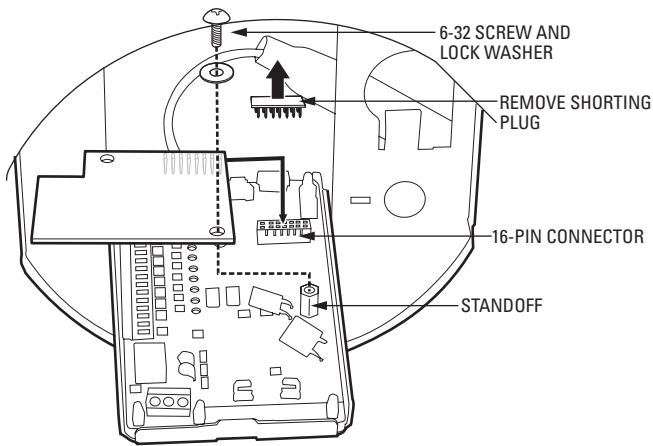

Figure 8. Spectra III/Spectra IV Back Box Circuit Board
- c. Remove the shorting plug from the 16-pin connector located on the back box circuit board (refer to Figure 8).